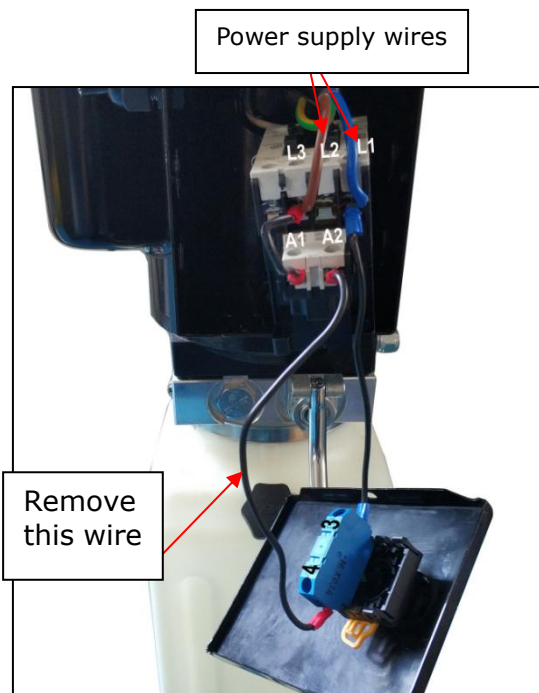
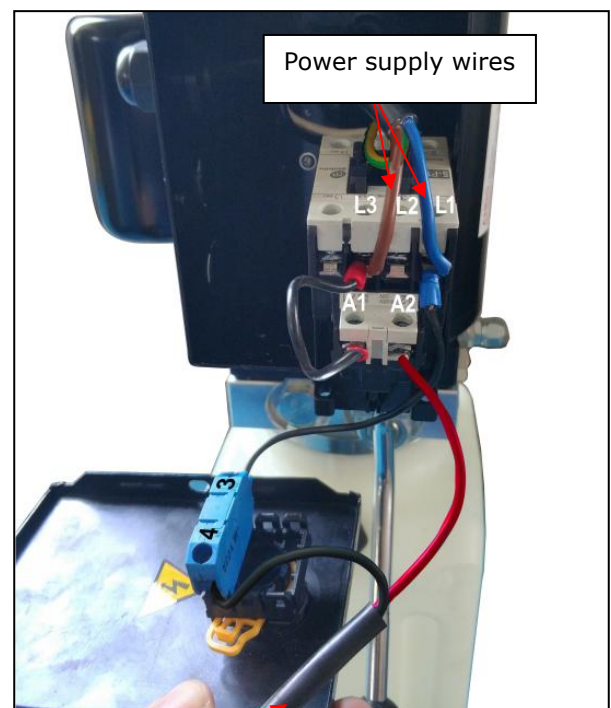

Fig. 45
Fig. 46
- Connecting limit switch wire: remove the short wire connecting terminal 4# of control button and A2 of AC contactor firstly (See Fig.45), then according to the wire number of the limit switch, connect them respectively to terminal 4# of control button and A2# of AC contactor. (See Fig. 46)